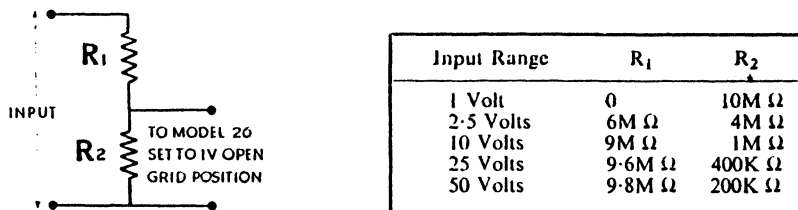

FIG. 11
1. All measurements and tolerances stated do not include those of the testing instrument, and where necessary, these should be ascertained before commencement of the calibration procedure. Where possible, the recommended instruments should be employed. Where the Valve Voltmeter is not available in Dockyard Calibration Centres, the Electronic Instruments Model 26 Valve Voltmeter should be used on its 1V open grid position, in conjunction with a suitable potential divider as shown in Fig. 11.
19. Use a D.C. Valve Voltmeter with an input impedance greater than $1M\ \Omega$, e.g. the "AVO" Electronic Test Meter, or the Multimeter Electronic C.T.38. The meter should be standardised at the appropriate voltages before making any adjustment mentioned in the following sections. When using the Valve Voltmeter Model 26, a potential divider should be used as in Fig. 11.